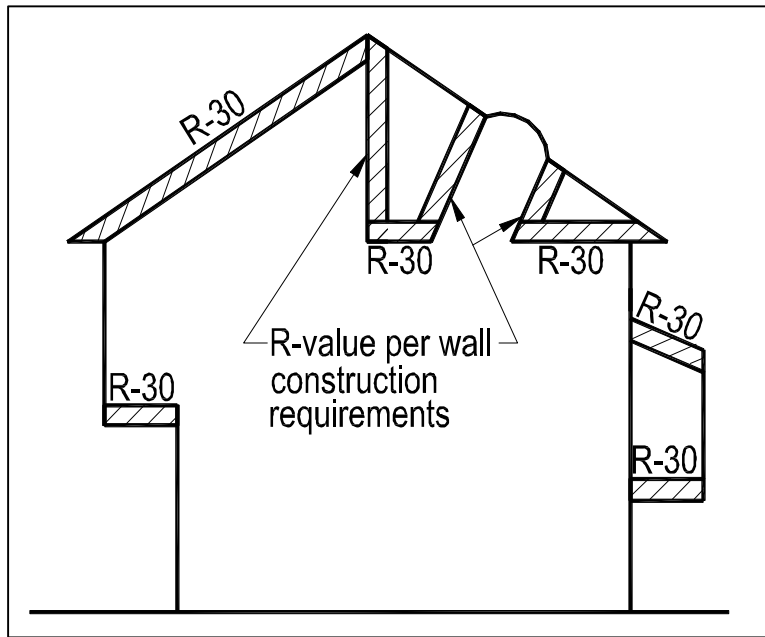

FIGURE 2: MISCELLANEOUS INSULATION REQUIREMENTS
- b. Skylight shaft walls shall be included in the area of the walls (see FIGURE 2).